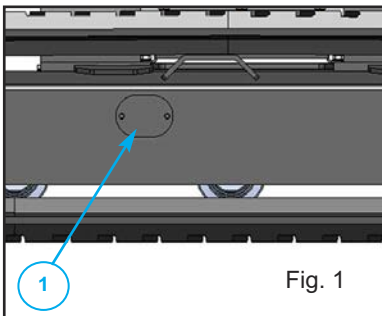

Fig. 1
The grease contained in the hydraulic track tensioner ram is pressurized. Never release grease nipple (No. 1, Fig. 1) for more than necessary to slowly release grease to a maximum of five turns. If the valve is loosened too much you risk expelling grease under pressure and possible injury to the machine operator. Remove gravel or mud when they are jammed between the sprocket and the track link before loosening the track.
1. Locate grease nipple under coverplate in side frame (fig. 1) to access the adjustment system.
2. Locate grease nipple under coverplate in side frame to access to the adjustment system (Fig. 1, page 24).